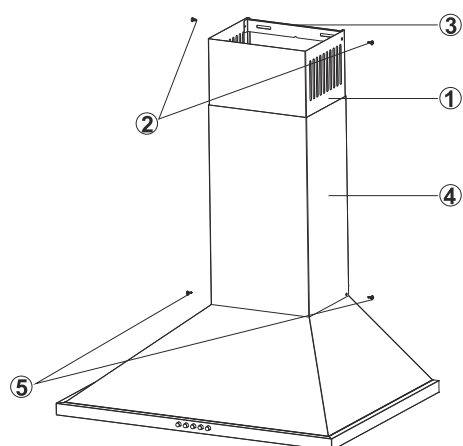

Fig. 12: MOUNTING SHEET FLUES
- Center flue connection sheet (3) on the hood, hold it under the cover or measure and mark C, D points (Fig. 12).
- Drill C, D points with  $\varnothing 6$ mm drill and place  $\varnothing 6$ mm plastic pins. Place flue connection sheet on the surface where 3.9x22 screws will be installed.(Fig. 12)
- Pull out the internal flue (1) using screws (2) and screw it on flue connection sheet on the right and left (3).(Fig. 12)
- Mount the external flue (4) on hood body using 2 screws (5). (Fig. 12)